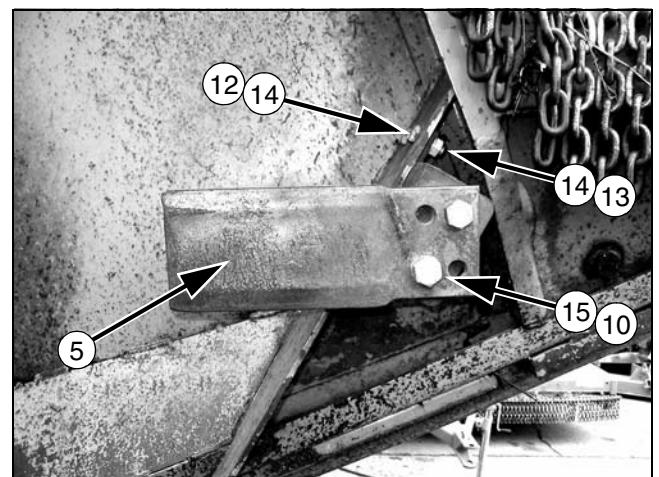

Figure 43. Stationary Blade Installed - Right Wing
1. Attach mounting bracket (6) to the front side of the front baffle and secure with cap screws (12), hardened flat washers (14) and lock nuts (13). Do not tighten hardware.
2. Attach stationary blade (5) to mounting bracket (6) using two cap screws (10), four hardened flat washers (15) and lock nuts (11). Blade should be angled by using the first hole on the left side and the second hole on the right side. Refer to Figure 43.
3. Rotate crossbar and blades so stationary blade fits between the two crossbar blades. Adjust mounting bracket (6) so the stationary blade (5) is 1" below flat blade (4). Tighten all hardware. See Figure 43.